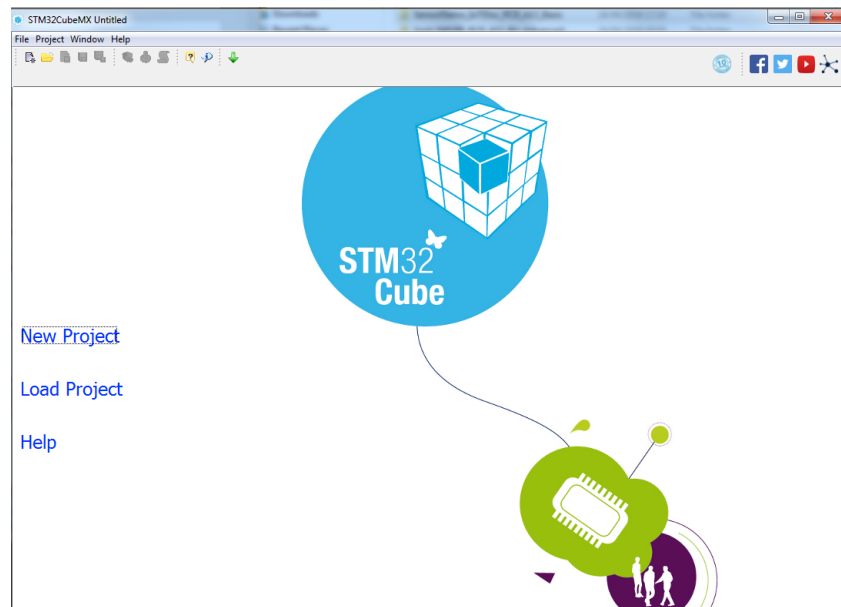

Figure 1 STM32CubeMX main page
- Figure 1 STM32CubeMX main page